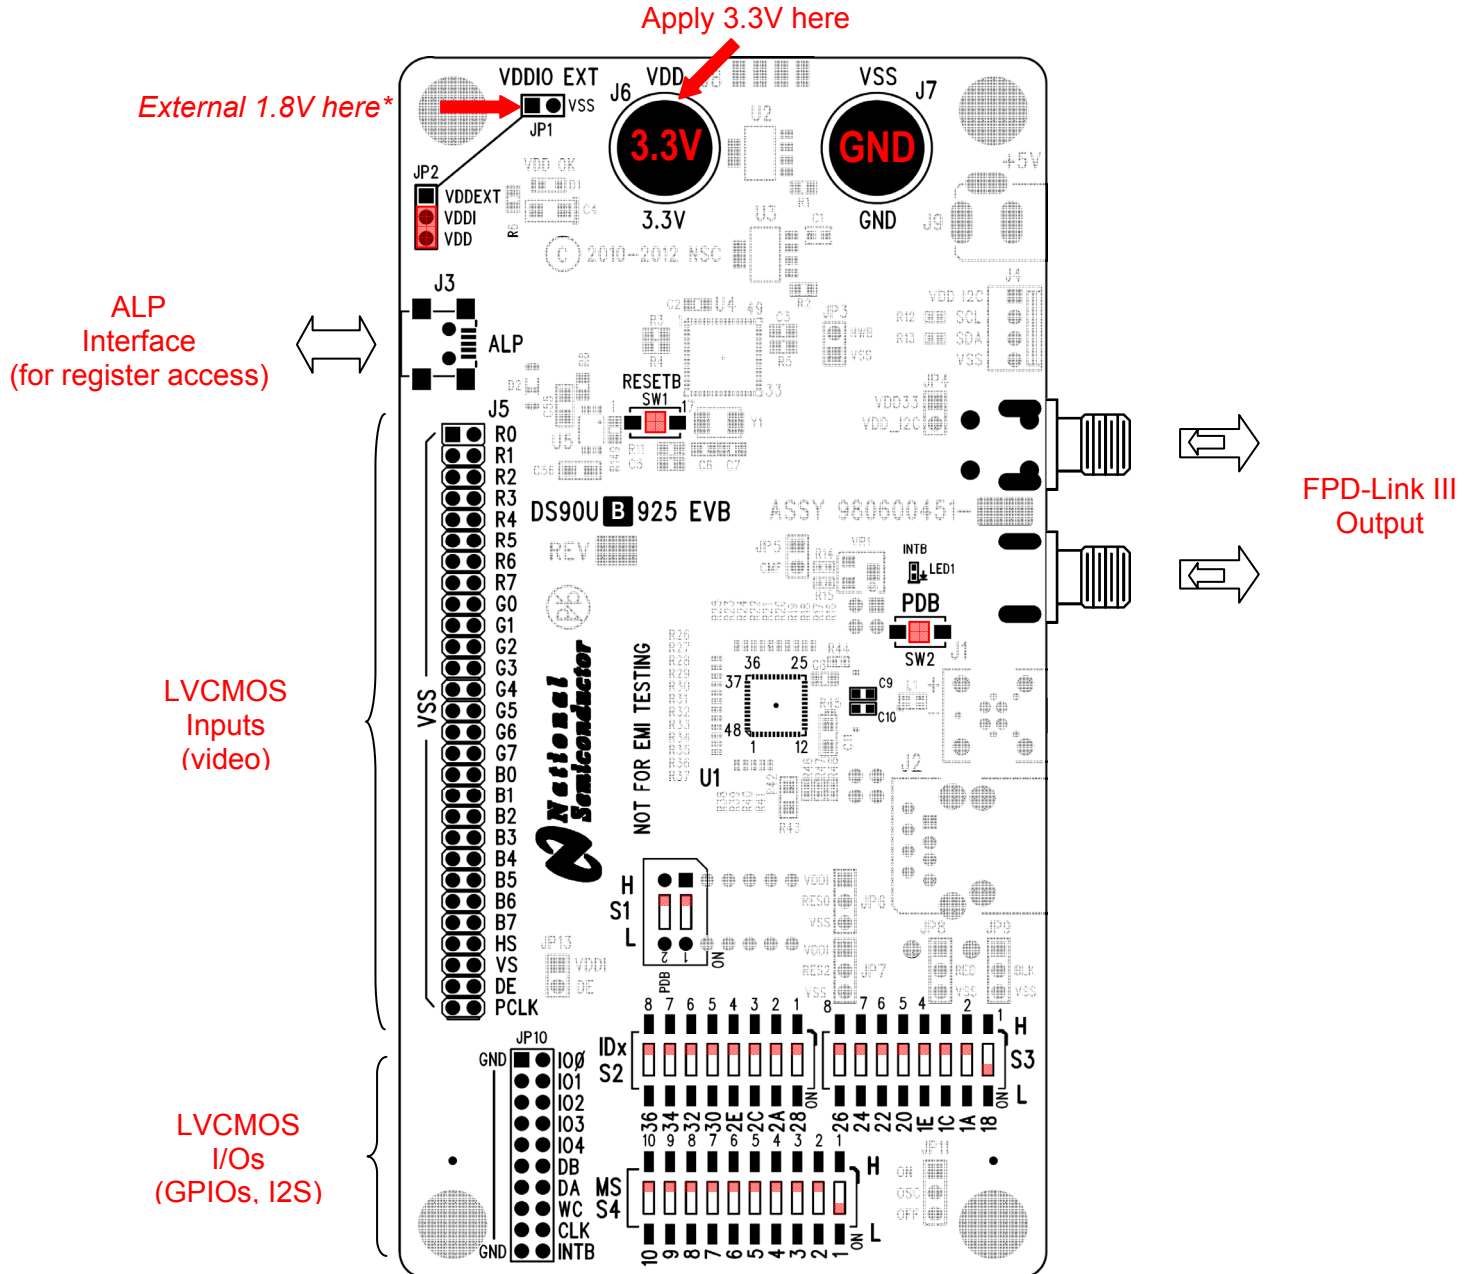

Figure 1: DS90UB925Q EVB
Make sure S1, S2, S3, S4, and JP2 are configured as shown in Figure 1.
- 5) Go back to figure 1 and double check factory settings.